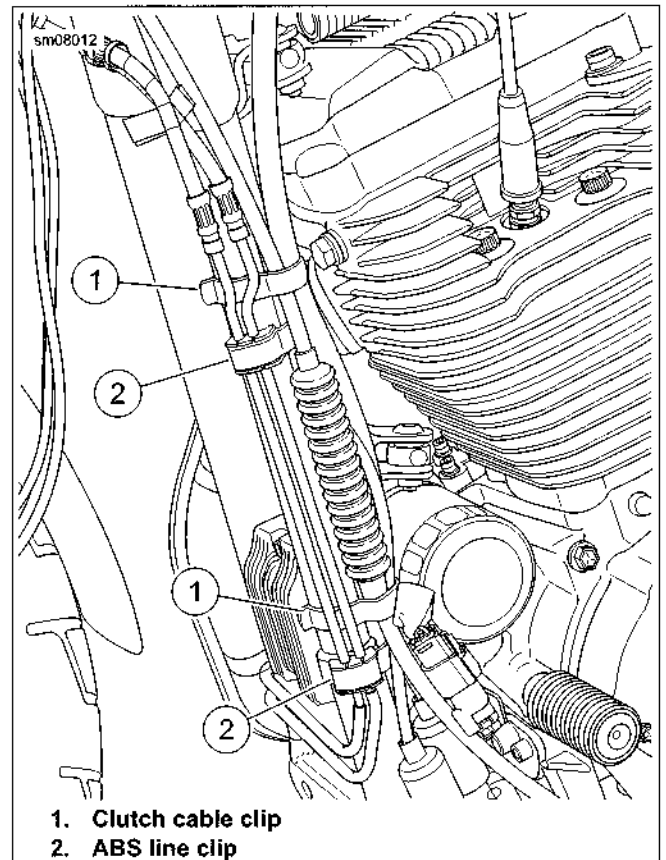

Figure 3-14. Frame Retaining Clips
40. See Figure 3-14. Attach clutch cable (along with wiring harness and front HO2S harness) to frame front left downtube with cable clips.